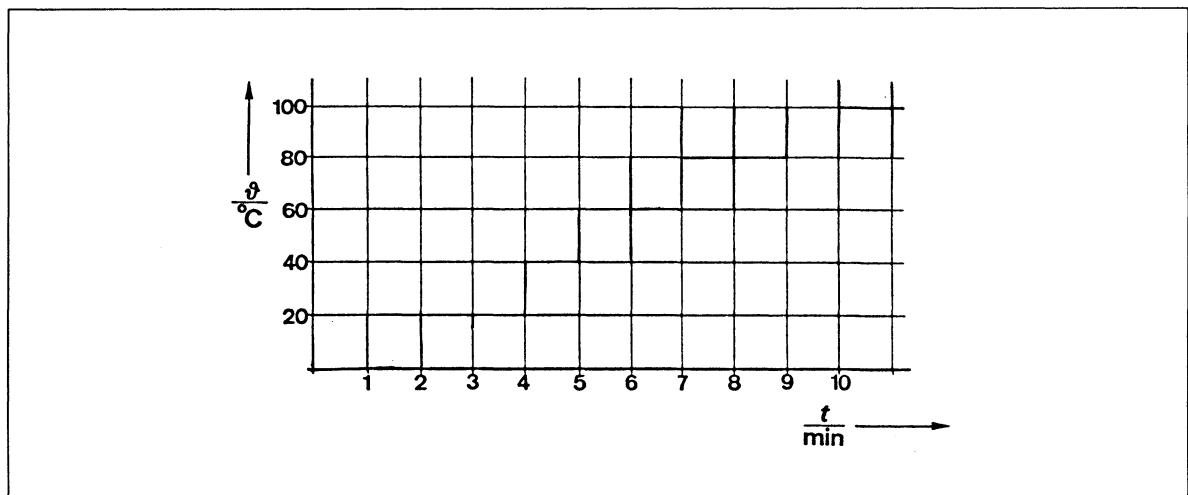

Fig. 2 Diagram showing temperature as a function of time when the supply of heat is constant.
10. Copy the values from the table into the diagram shown in fig. 2.
11. Describe the change in temperature (fig. 2) while heat is being supplied: